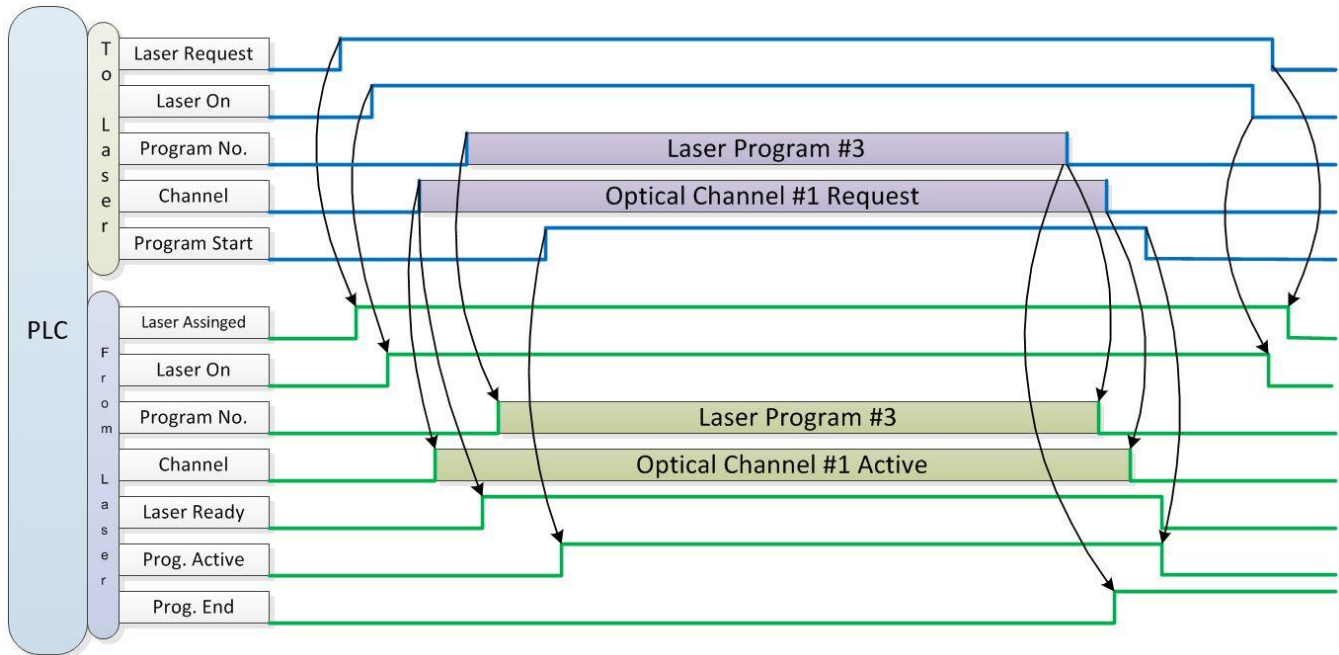

Figure 9-8 Control example with beam switch
- For lasers with a beam switch installed, see Figure 9-8